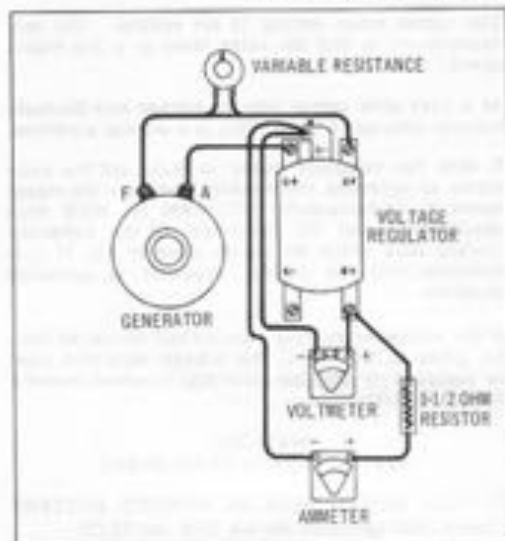

Figure 51-8.
C. TESTING VOLTAGE CONTROL UNIT SETTING. (FIG. 51-8)
1. Make same connections as used to make previous Test B, except move positive voltmeter lead to regulator "B+" terminal. See Fig. 51-8.